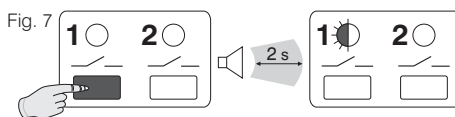

Fig. 7
- Hold down **key 1** until a single acoustic signal sounds; then release it: **LED 1** is flashing.
- The transmitter is coupled to the receiver (fig. 7).